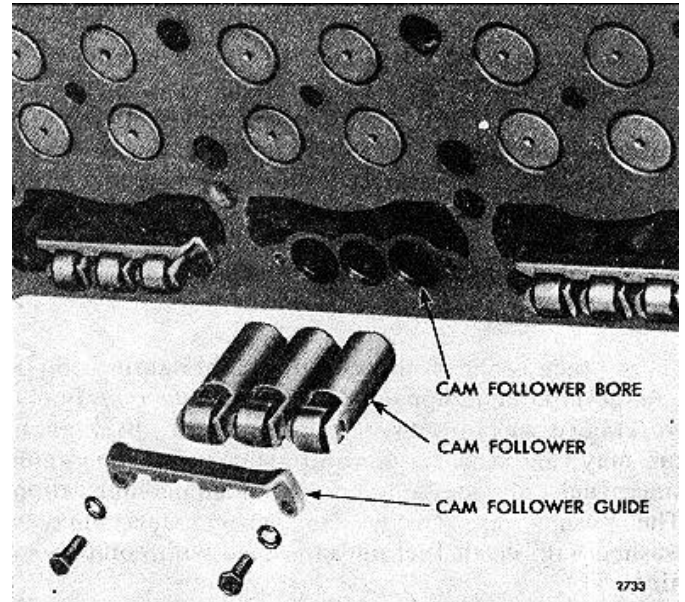

FIG. 4 - Cam Followers and Guide
1. Rest the cylinder head on its side (Fig. 4) and remove the cam follower guide.